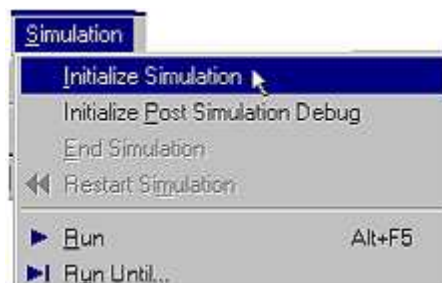

Figure 29
5. Select “Initialize Simulation” under Simulation in the menu bar (Figure 29).